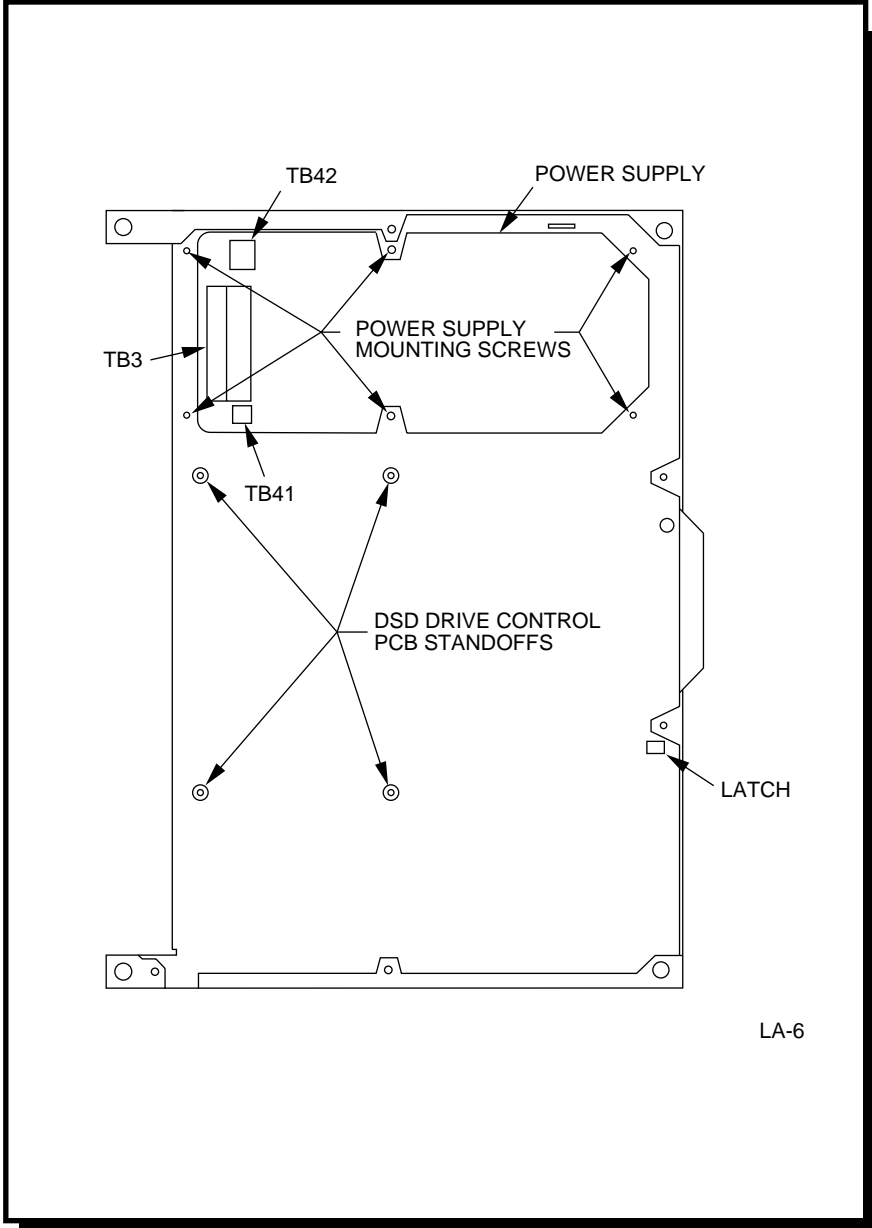

Figure 13. DSD Power Supply Replacement
- Note which cables/wires are connected to TB3, TB41, and TB42 on the DSD Power Supply (see Figure 13). Label any cables/wires, as necessary, to insure proper reinstallation.
- Remove six mounting screws (see Figure 13).